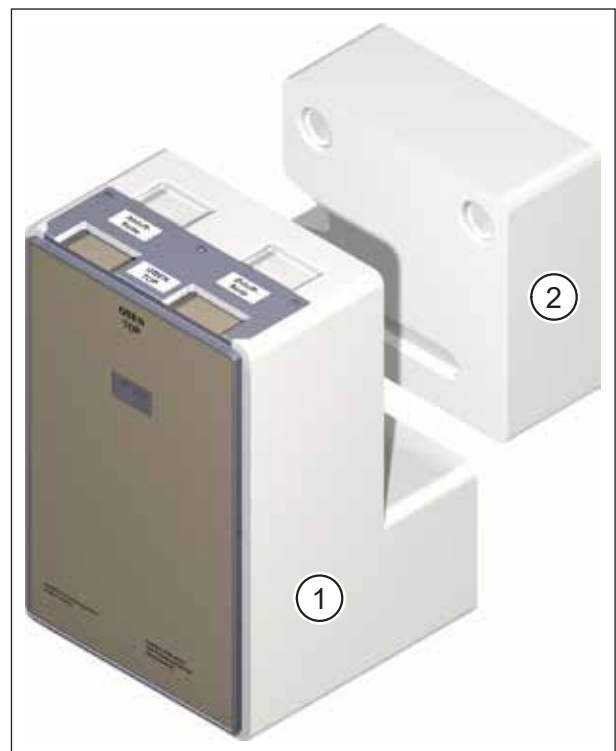

Fig. 1: Installation kit M-WRG-II M-U² and optional filler piece M-WRG-II M/Fü
This manual describes how to flush-mount the M-WRG-II M-U² installation kit (item 1 in Fig. 1) in solid walls and frame constructions. This installation kit is used to integrate ventilation units from the M-WRG-II series fully into the wall. Two flat ductwork connections **or** two flexible pipe connections **or** one flat ductwork connection and one flexible pipe connection may be used in the extract air and supply air openings. In solid constructions, if a complete wall aperture is planned for the installation kit in a new build, for example, or if a complete wall breakthrough is planned for a retrofit, the optional filler piece M-WRG-II M/Fü (item 2 in Fig. 1) can be used to pack out the wall. If required, the filler piece can be used in the same way in a frame construction.